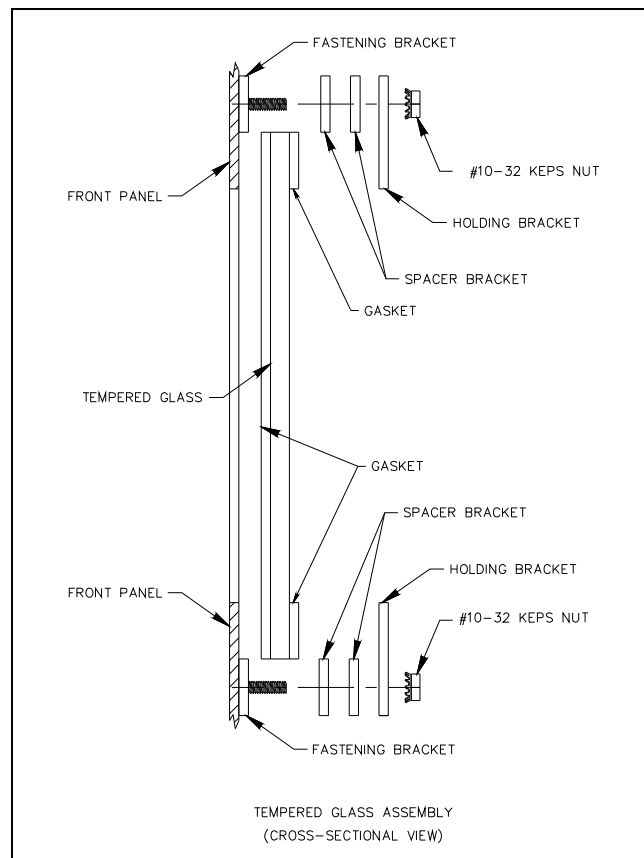

Figure 4. Glass Installation Instructions
4. Fasten the glass in place using the spacer brackets, holding brackets, and keps nuts previously removed (see Figure 4).